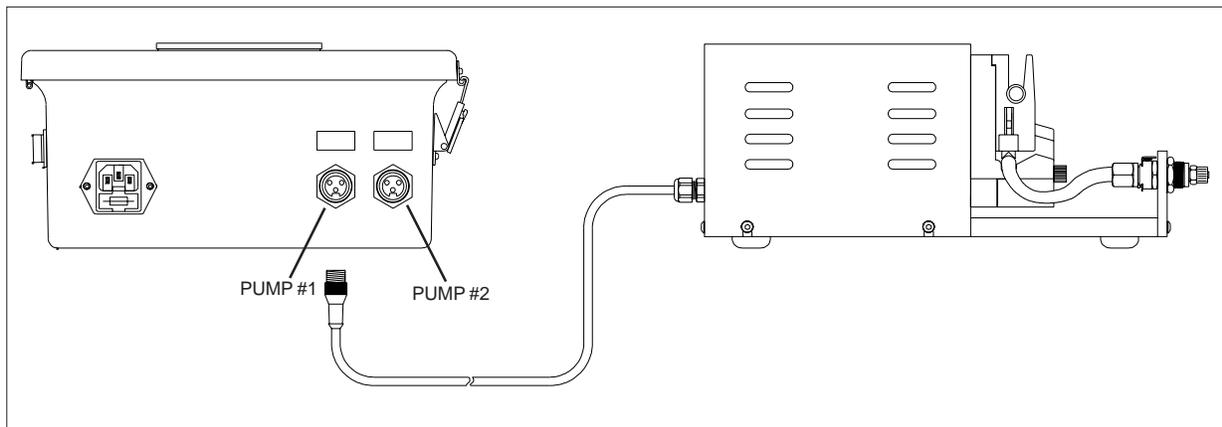

FIGURE 8
- 5 - Plug the Pump Module cable(s) into the plug receptacles located on the bottom of the control box marked *PUMP MODULE #1* and *PUMP MODULE #2* as shown in figure 8.